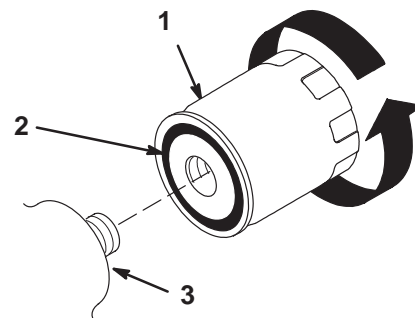

Figure 25
7. Apply a thin coat hydraulic fluid to the rubber gasket on the replacement filter (Fig. 25).
8. Install the replacement hydraulic filter onto the filter adapter. Tighten it clockwise until the rubber gasket contacts the filter adapter, then tighten the filter an additional 1/2 turn (Fig. 25).